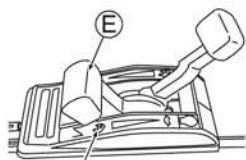

Fig. 16
2. Set Throttle lever (E) to "🐢" to start mowing. (See Fig. 16)